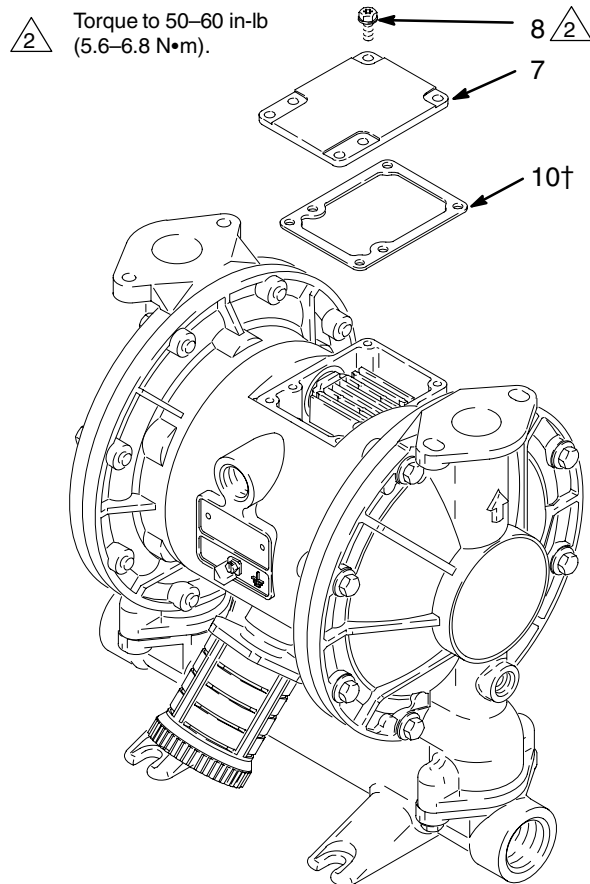

Fig. 8
2. With a Torx (T20) screwdriver or 7 mm (9/32") socket wrench, remove the six screws (8), air valve cover (7), and gasket (10). See Fig. 8.
10. Align the valve gasket (10†) and cover (7) with the six holes in the center housing (5). Secure with six screws (8), using a Torx (T20) screwdriver or 7 mm (9/32") socket wrench. Torque to 50–60 in-lb (5.6–6.8 N•m). See Fig. 8.